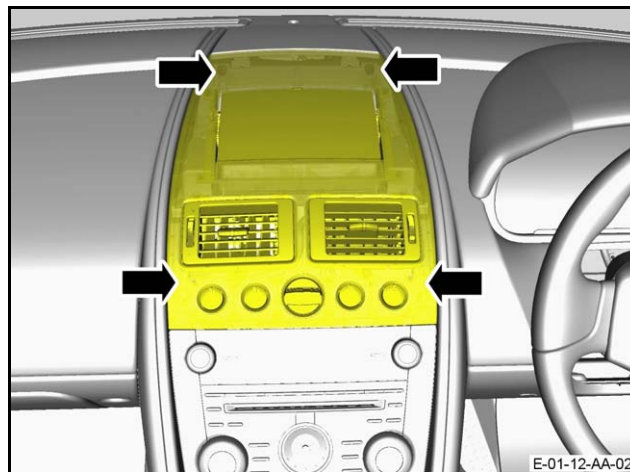

Figure 1
1. Release the clips that attach the centre-stack instrument panel (refer to Figure 1).